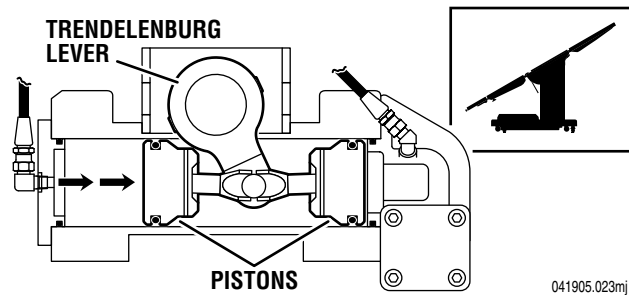

Figure 1-9. Trendelenburg Cylinder Assy.
2. Trendelenburg Cylinder Assembly - The Trendelenburg tilt assembly consists of two cylinders, pistons and connecting rods. The connecting rods connect to the Trendelenburg lever which connects to the table side frames via the Trendelenburg axis. When hydraulic fluid is pumped into one cylinder, the piston and connecting rod pushes the Trendelenburg lever which tilts the table top. To tilt the table top in the opposite direction, fluid is pumped into the opposite cylinder. See figure 1-9.